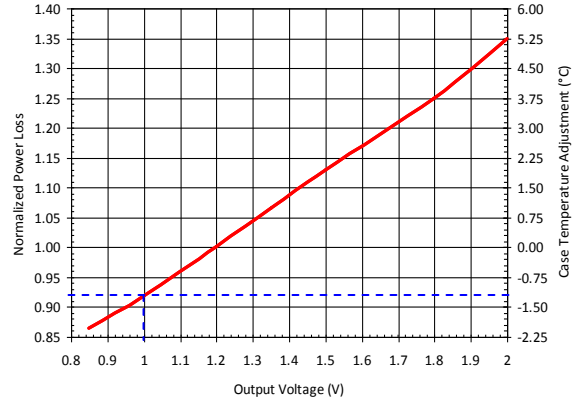

Figure 11: Normalized Power Loss vs. Output Voltage
- 3) Determine the output voltage normalizing factor with  $V_{OUT}=1V$ , which is 0.92 based on the dashed lines in Figure 11.